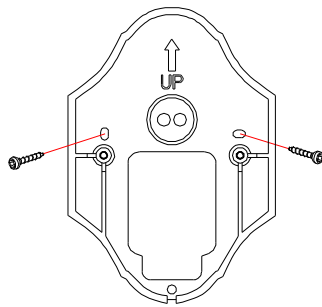

FIGURE 10
- (4) Fix the back plate to the mounting location (FIGURE 10).